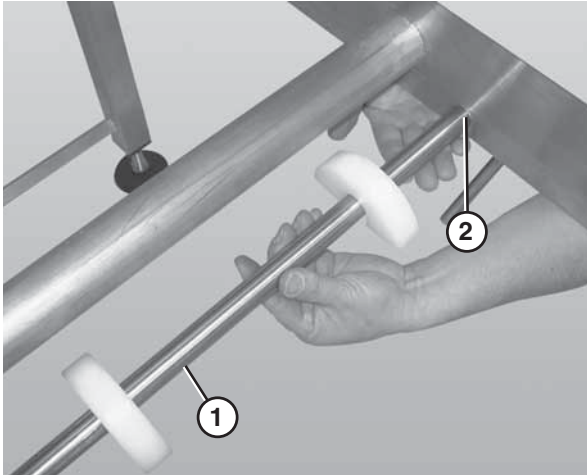

Figure 55
1. Remove the belt returns by pushing up on the return shaft (**Figure 55, item 1**) and sliding it through the large hole (**Figure 55, item 2**) in the frame.
2. Lower the opposite end of the return shaft (**Figure 55, item 1**) and slide it out of the frame.